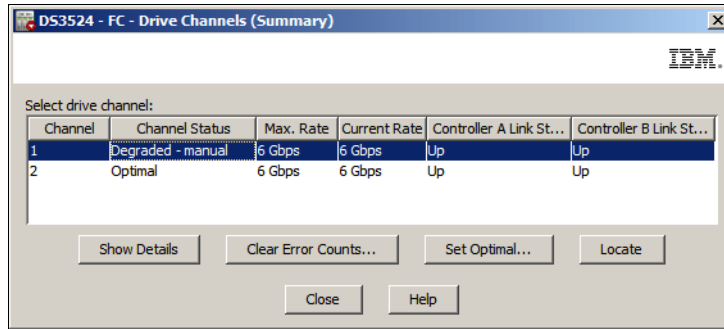

Figure 14-118 Drive Channel 1 in Degraded status
4. If the status of either of the two Drive Channels is Degraded, the Summary view reports the status as shown in Figure 14-118 on page 405. To set the Drive Channel to the *Optimal* status, select the Drive Channel in the Summary view and click the **Set Optimal** button. You will be asked to confirm that you want to perform this operation, Click **Yes** to continue.